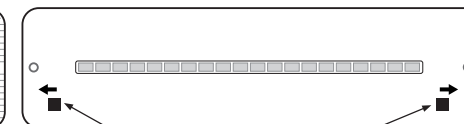

Fig 2 Pull apart tabs
- Pull apart tabs (see Fig 2) to gain access to the connections